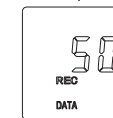

Fig.3
(1).To set the number of the times of data recording. The sign "REC" and sign "DATA" would both flicker in the LCD(Fig.3) and the number of recording times displays. Press HOLD and MAX to set the number from 1 to 50.